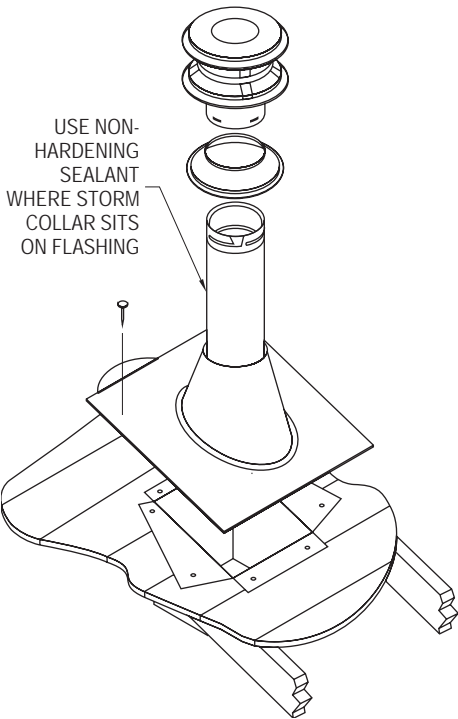

Figure 24
11. Slip the Flashing over the pipe section(s) protruding through the roof. Secure the base to the roof with roofing nails as shown in *Figure 24*. Insure that the roofing material overlaps the top edge of the Flashing (*Refer to Figure 2*).